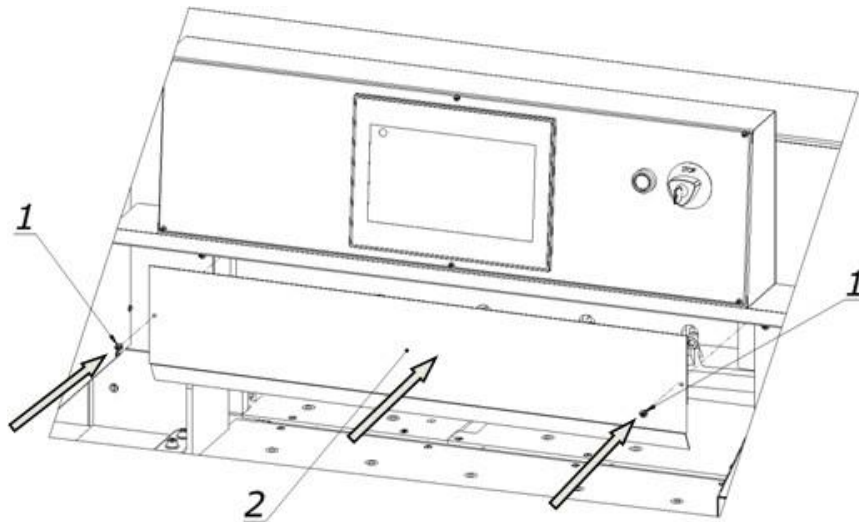

Figure 34
24. Attach cover 2 with the screws 1 (fig.34)